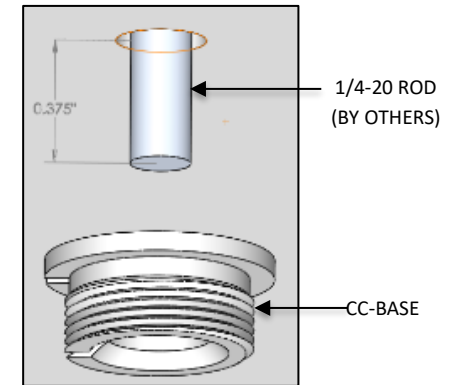

FIG. 9 – GRID CEILING INSTALLATION
6. Add a light thread locking compound to the 1/4-20 ROD (by others). Then thread CC-BASE to 1/4-20 ROD protruding through the ceiling material as shown in FIG. 9.